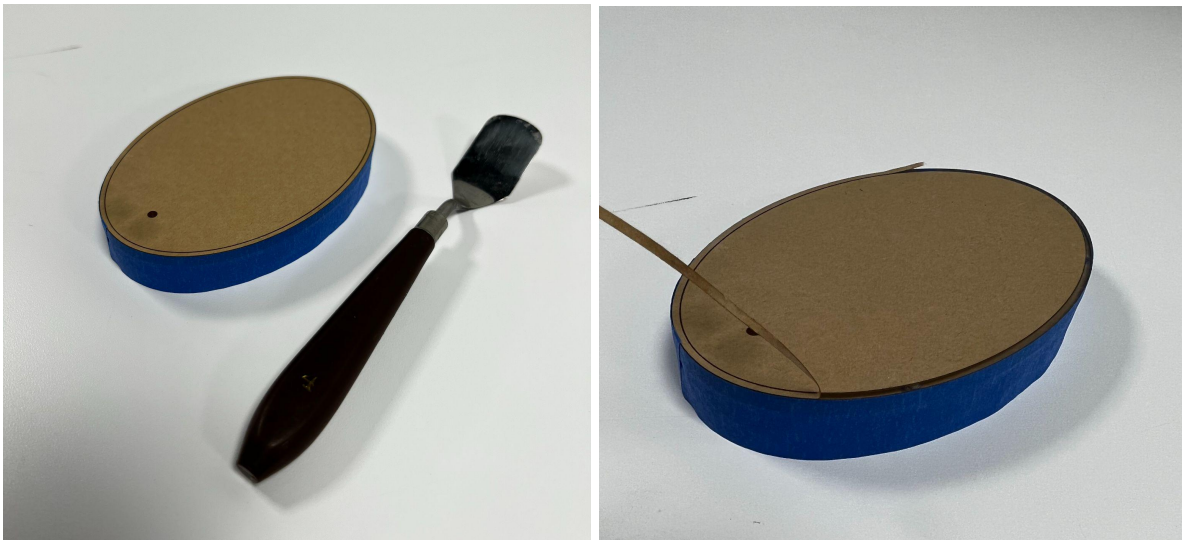

Figure 49: Removal of thin outer paper ellipse to reveal surface for adhesive spray
6. Remove the thin outer paper ellipse on what will be the interior window surface of the bubble module (Fig. 49) to reveal an ellipse outline on the acrylic's border. This is the surface the repositionable spray adhesive will cover to stick onto the latex in a later step.